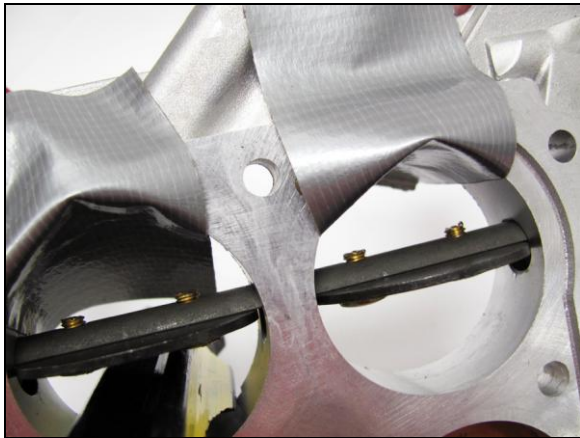

Figure 3
4. Figure 3 shows how the duct tape is in place on the front side of the primary bore. Using duct tape (or similar heavy tape) will eliminate any damage to the bore during the filing operation.